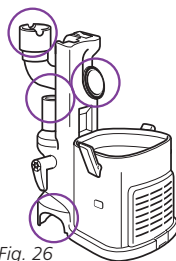

Fig. 26
- Remove the dust cup and extension wand and separate the detachable canister from the motorized floor brush. Look in all 4 openings for any blockages. (Fig. 26)